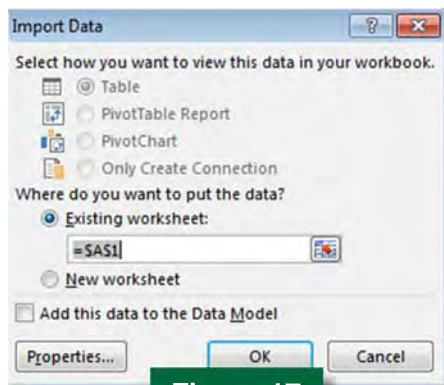

Figure 17
6. In the **Existing worksheet** field, select cell **A1** (Figure 17), and click 'OK' to import the data, which will appear in the Excel worksheet, as shown in Figure 18, following the summary information.